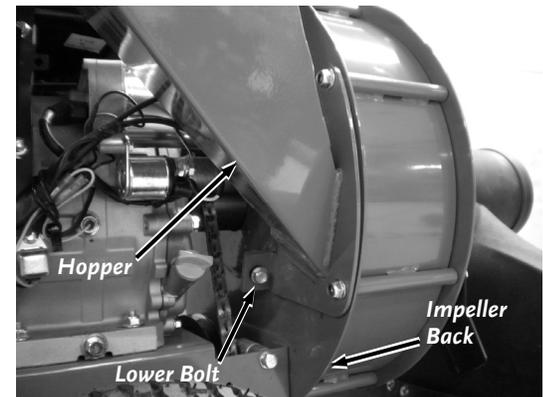

Figure 37
2. Remove the lower Bolt that secures the Hopper to the Impeller Back, using a Ratchet with 1/2" Socket and 6" Extension (**Figure 37**).
11. Reposition the Hopper onto the Impeller Back and loosely install the lower Bolt and Lock Nuts onto the Upper Bolts (**Figure 37**).
14. Tighten the Lower mounting Bolt using Ratchet with 1/2" Socket and 6" Extension (**Figure 37**).